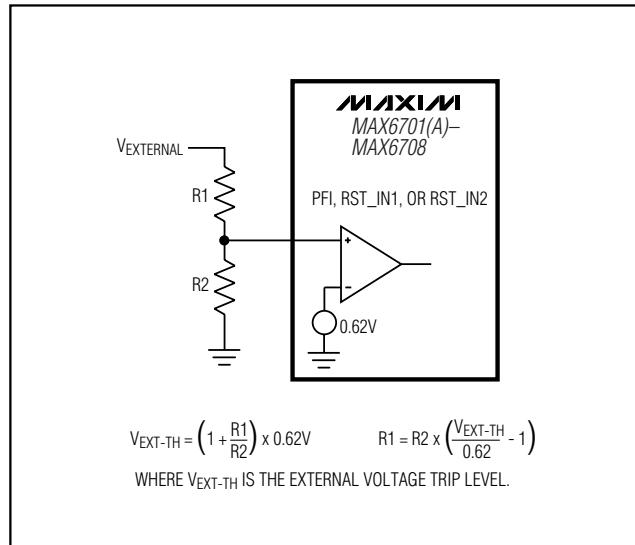

Figure 8. Calculating Adjustable Voltage Thresholds
The MAX6701(A)/MAX6702(A)/MAX6703(A) include two adjustable reset inputs for monitoring up to a total of three system voltages (including VCC). The thresholds for the monitored RST\_IN supplies are externally set with resistor-divider networks (Figure 8). The reset output is asserted if any of the monitored supplies (VCC, RST\_IN1, or RST\_IN2) go below its specified threshold and remains asserted for the reset timeout period after all supplies are above their thresholds.